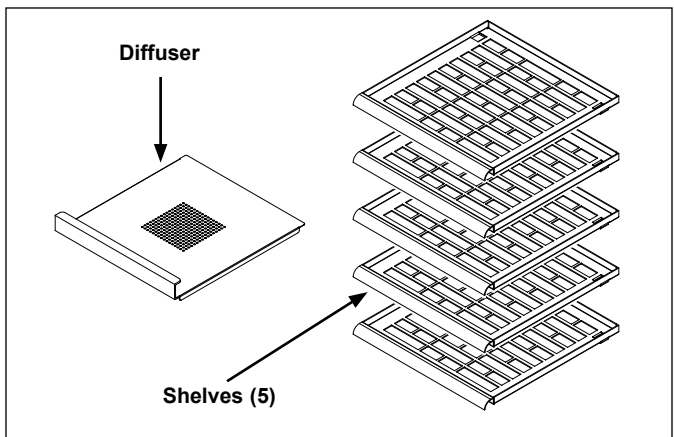

Figure 2. SDC-500 Accessories
- 5 Shelves (Figure 2)
- 1 Diffuser (Figure 2)